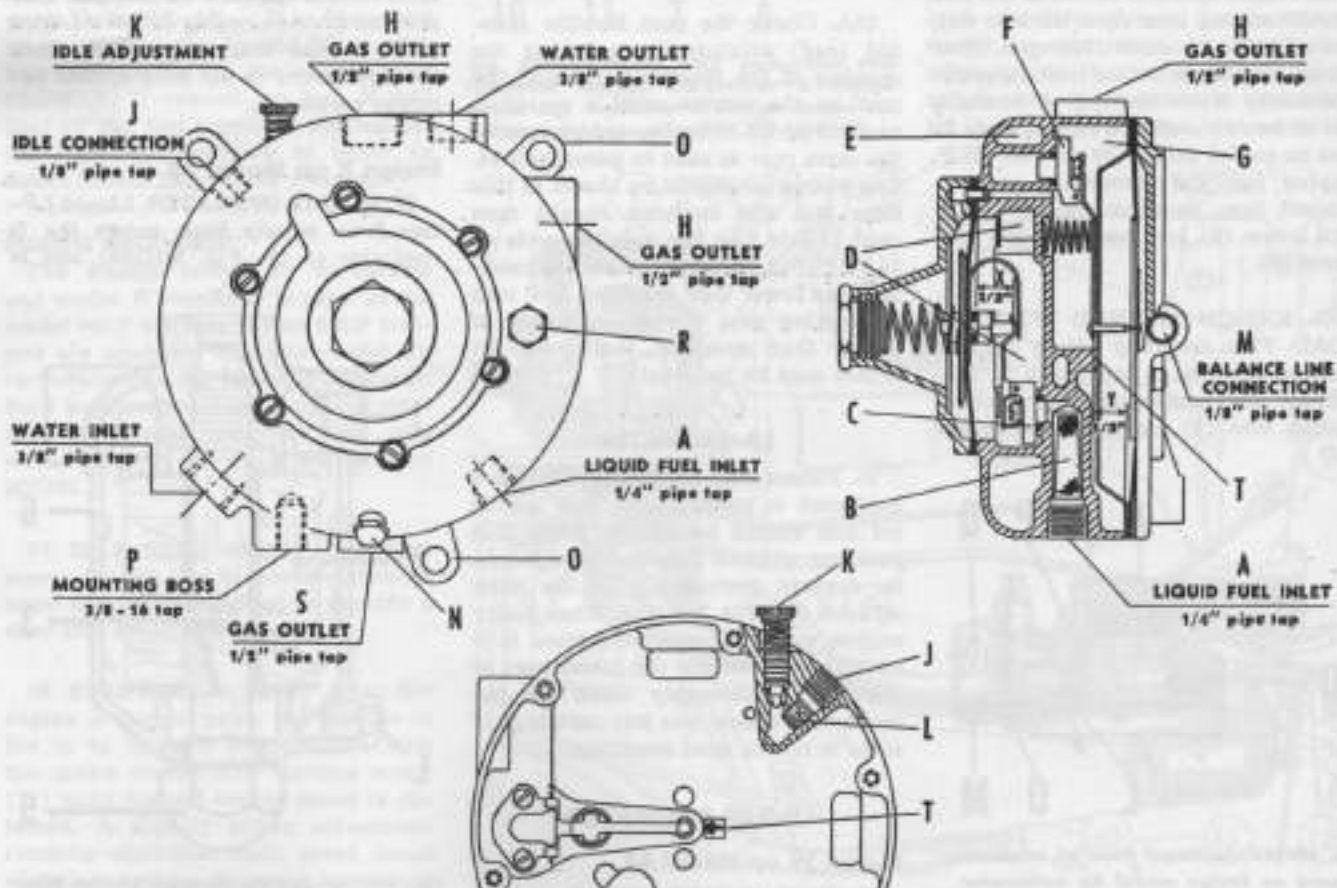

Fig. MH164—Ensign model W regulator as used on Massey-Harris model 44LP.
86. HOW IT OPERATES. Fuel from the supply tank enters the regulating unit inlet (A—Fig. MH164) at a tank pressure of 25 to 80 psi and is reduced
90. Remove the unit from the engine and completely disassemble using Figs. MH164 and MH165 as references. Thoroughly wash all parts and blow out all passages with compressed air. Inspect each part carefully and discard any that are worn.